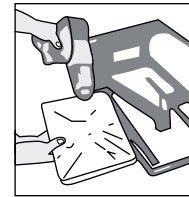

Figure 3
7. To shrink film around the product: adjust heat gun to desired temperature. Holding gun approximately 12" from product, begin to shrink film around the seams first and then toward the middle in a circular motion until package has a glass-like appearance. (See Figure 3)